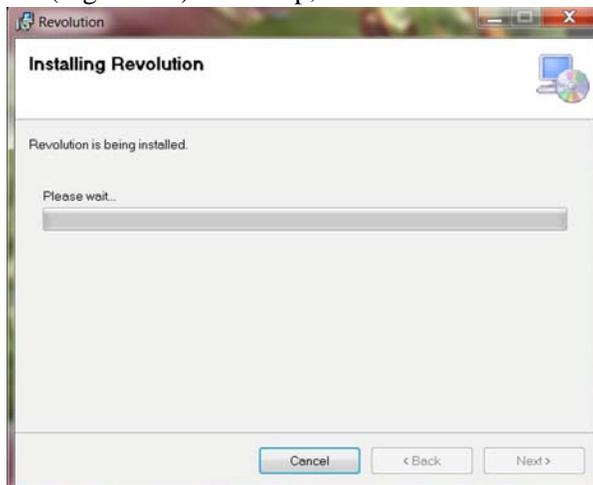

Figure 4-8. *Installing Revolution Screen*
7. The *Installing Revolution* (Figure 4-8) comes up, wait for the download to complete.